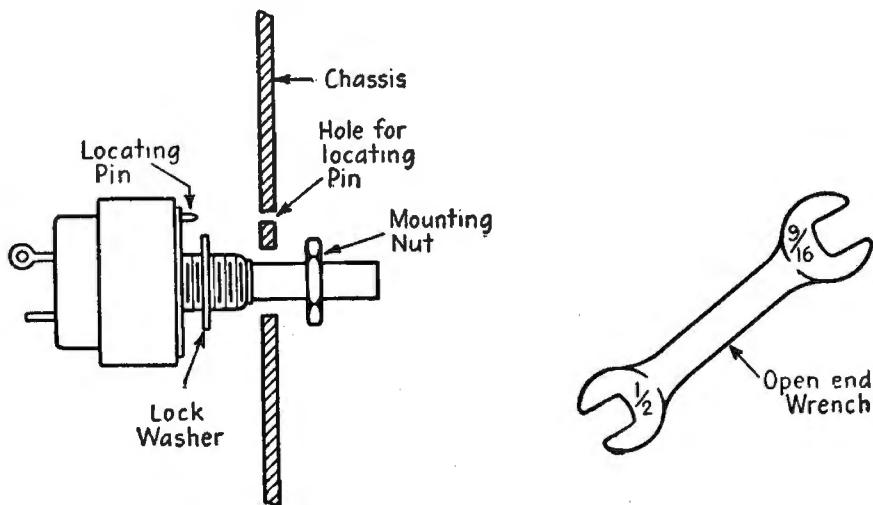

FIG. 11-15.—Mounting the volume control.
- 5. Slip the replacement control through the chassis hole, using a lock washer or locating pin, as shown in Fig. 11-15. If there is no